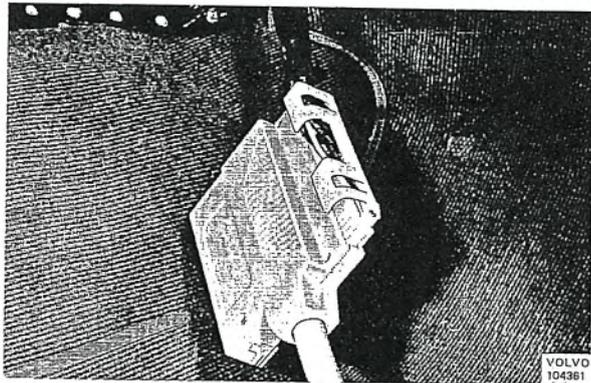

Fig. 2-91. Test instrument connected to cable harness
2. Remove the control unit (see page 2-44). Connect the cable from test instrument to the cable harness in the vehicle, see Fig. 2-91.